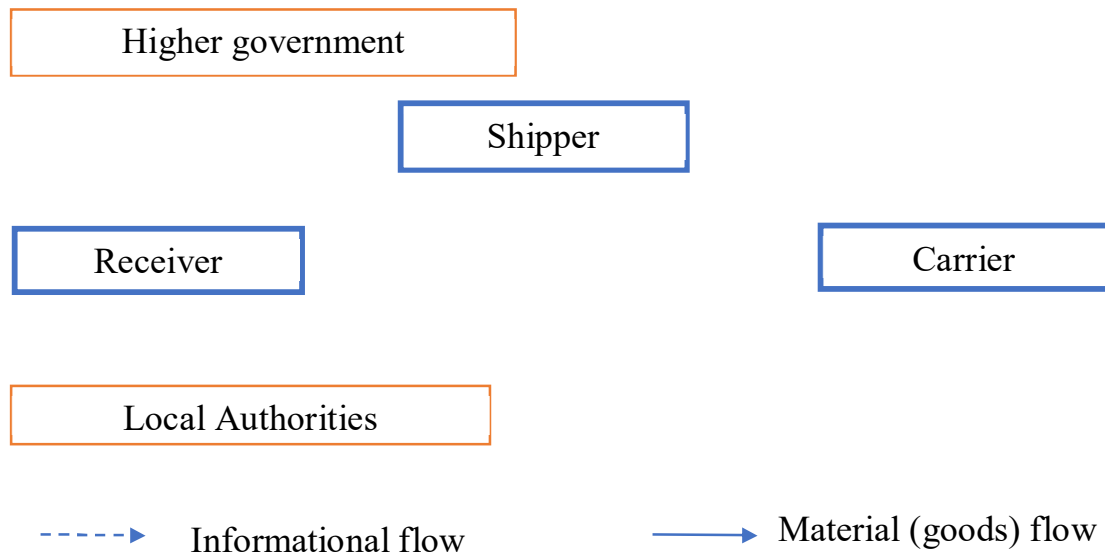

Figure 2.1 – Interactions between stakeholders
2. To determine interactions between each of stakeholders group, Fig. 2.1. Describe a conflict between stakeholders (for instance, with whom, reasons for conflict).